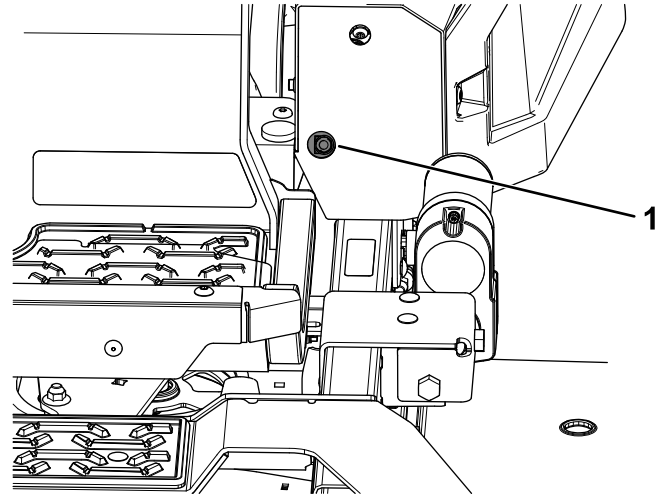
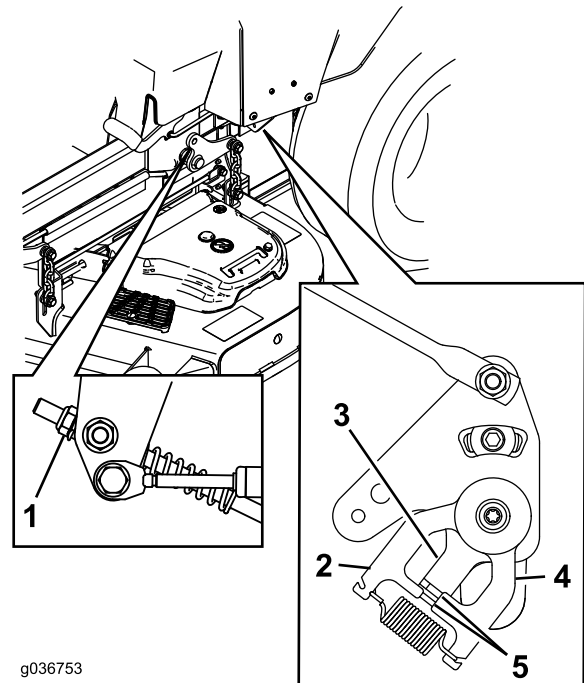

Figure 75
Figure 76
11. Adjust the pump-control-rod lengths by rotating the nut in the appropriate direction until the wheels slightly creep in reverse (Figure 75 and Figure 76).